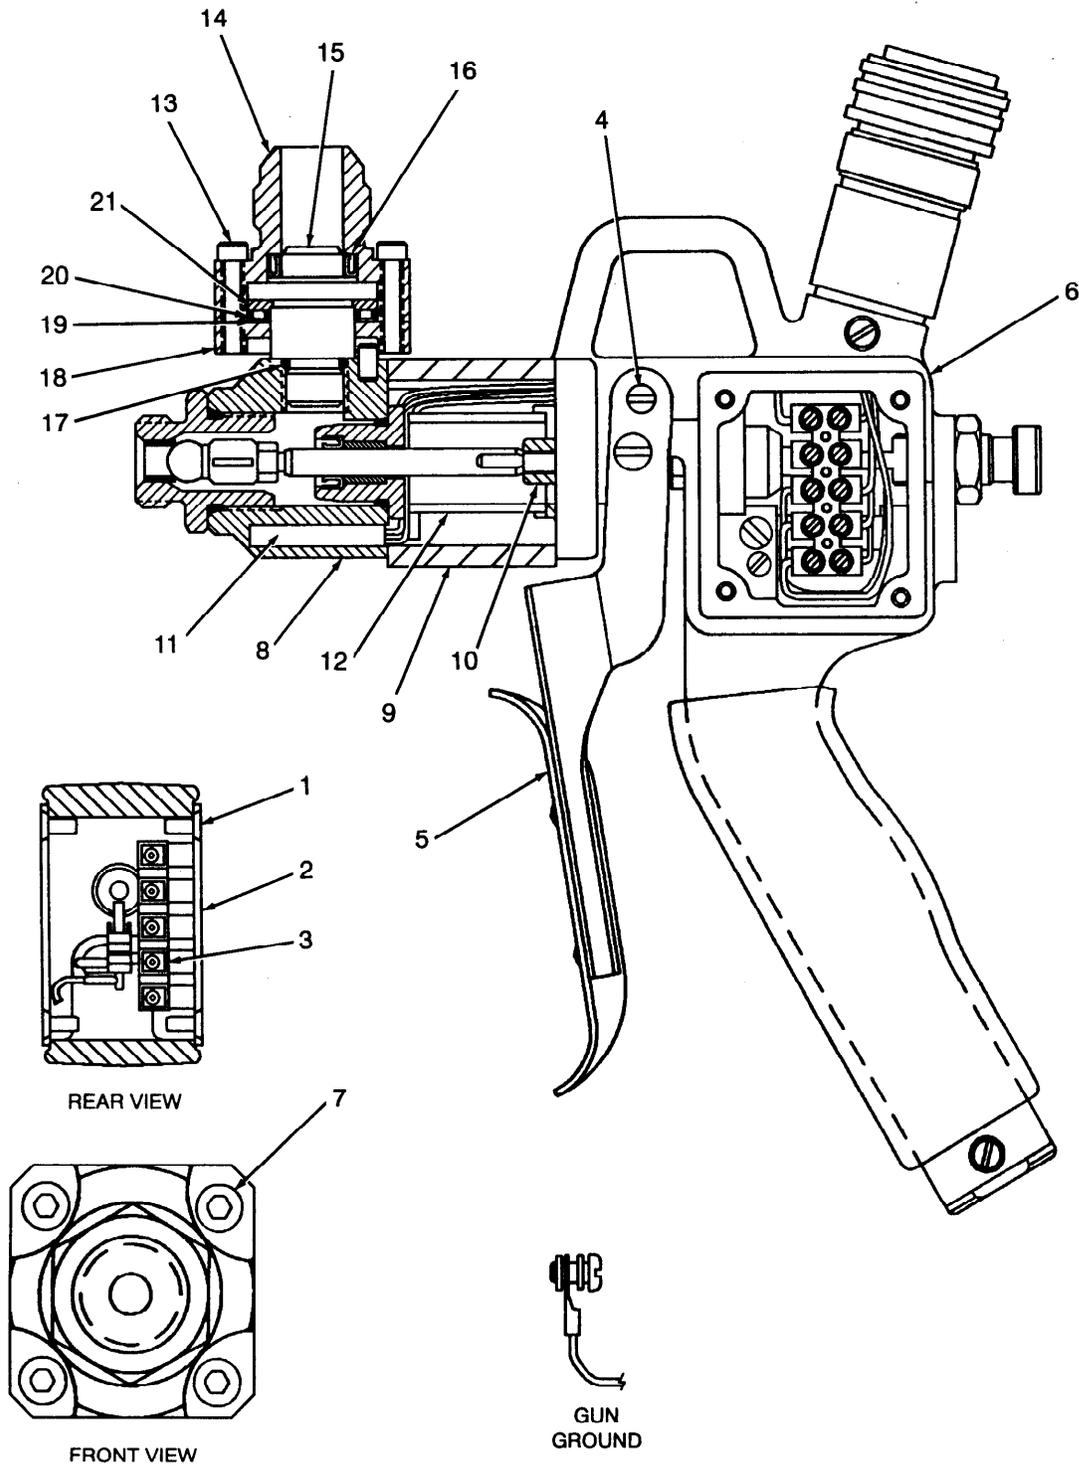

Figure 7-1 — Heated, Switched, Top Feed Gun Cutaway
Refer to Figure 7-1.
Refer to Figures 7-1 and 7-2.
1. Remove screws and lockwashers (1, Fig. 7-1) securing warning plate (2, Fig. 7-1) to handle.
2. Remove screws (1) securing switch (2) to switch shaft (3).
2. While pulling back on trigger (1), unscrew and remove seat (2) from hydraulic body (3). Inspect O-ring (4) and replace if damaged.
3. Remove screw (5) securing trigger to handle (6). Remove trigger from gun.
4. Remove screws and lockwashers (7, Fig. 7-1) securing hydraulic body and insulation block (7) to handle.
5. Remove body, insulation block, sleeve (8), and ball shaft (9) from handle, pulling heater cartridge and RTD leads through handle carefully.
6. Place puller (10) in a soft-jawed vise. Place a wrench on the ball shaft flats and unscrew it from the puller.
7. Push ball shaft through packing cartridge. Inspect packing cartridge seal (11) and replace if damaged. Refer to Section 8 for part numbers.
10. Re-assemble sleeve (8), insulation block (7), and hydraulic body (3) to handle. Make sure heater cartridges and RTD are in place in hydraulic body, and leads are routed properly. Feed leads and puller through handle.
11. Install screws and lockwashers (7, Fig. 7-1) through hydraulic body and insulation block, thread screws into handle and tighten securely.